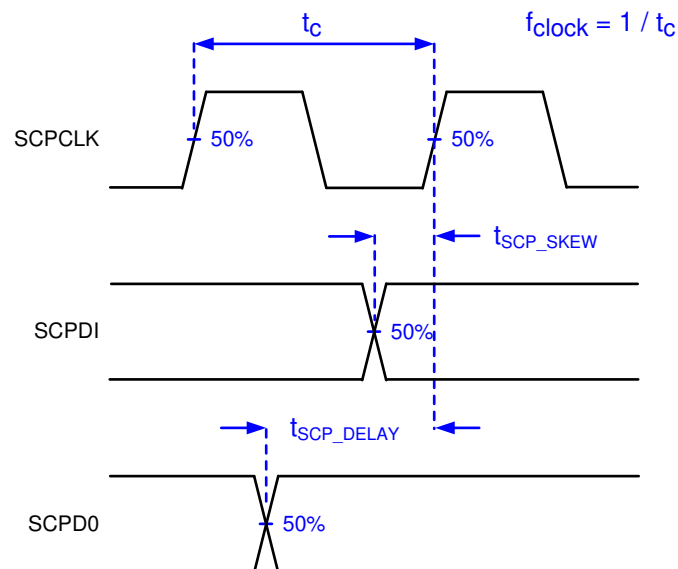

Figure 6-3. Serial Communications Bus Timing Parameters
- (5) PWRDNZ input pin resets the SCP and disables the LVDS receivers. PWRDNZ input pin overrides SCPENZ input pin and tri-states the SCPDO output pin.
- (6) The SCP clock is a gated clock. The duty cycle shall be 50% \pm 10%. SCP parameter is related to the frequency of DCLK.
- (7) Refer to 図 6-3.
- (8) SCP internal oscillator is specified to operate all SCP registers. For all SCP operations, DCLK is required.
SERIAL CONTROL BUS TIMING PARAMETERS (See Figure 6-3 and Figure 6-4)